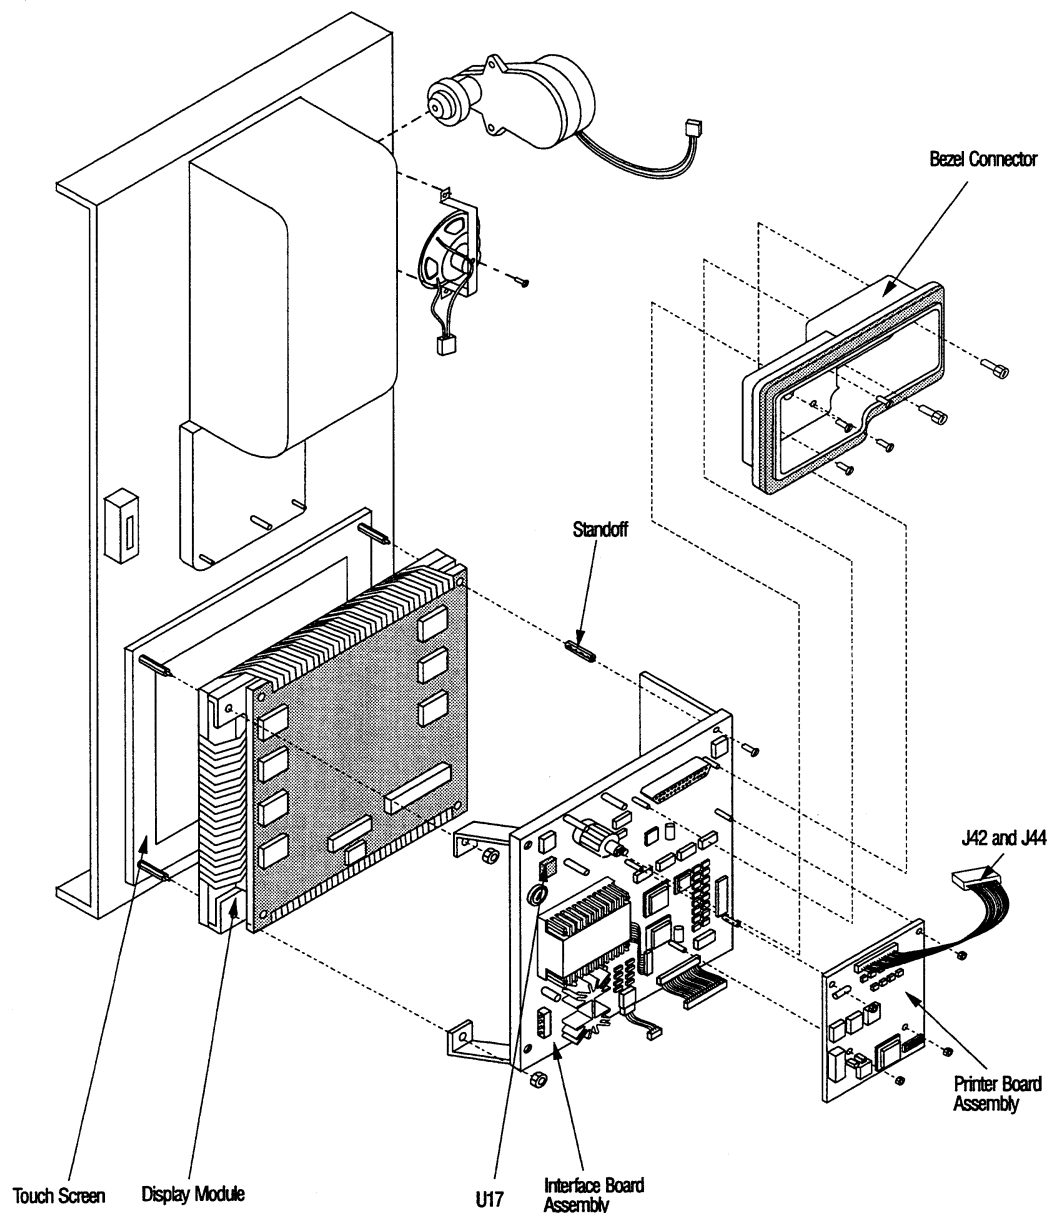

Figure 8-21. Display Assembly
5. Disconnect J42 and J44 (Figure 8-21).
Refer to Figure 8-21 for location. Remove interface board assembly P-146657-752.
Refer to Figure 8-21 for location. Remove U17 chip P-129360-770 on interface board.
Refer to Figure 8-21. Remove display module P-136809-735 as follows.
Refer to Figure 8-21 for location. Remove Touch screen P-136809-701.